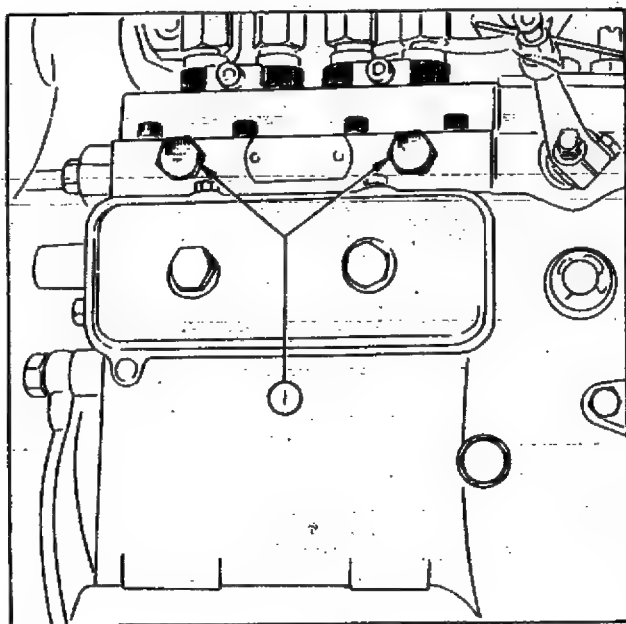

Fig. 54 1 Bleed Screws
4. Loosen the bleed screws on the injection pump body approximately two or three turns (see Fig. 54), operate the lift pump as before.